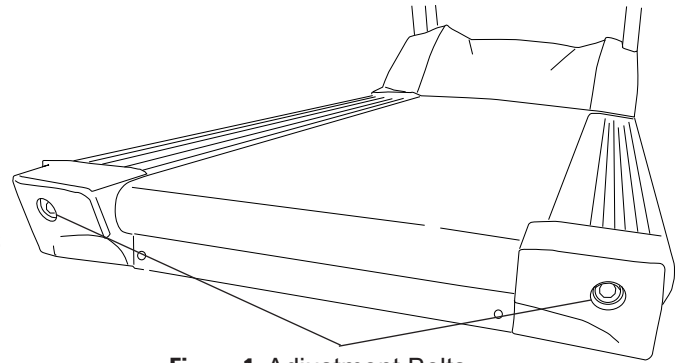

Figure 1: Adjustment Bolts
1. Start by loosening the two (2) adjustment bolts (see Figure 1).